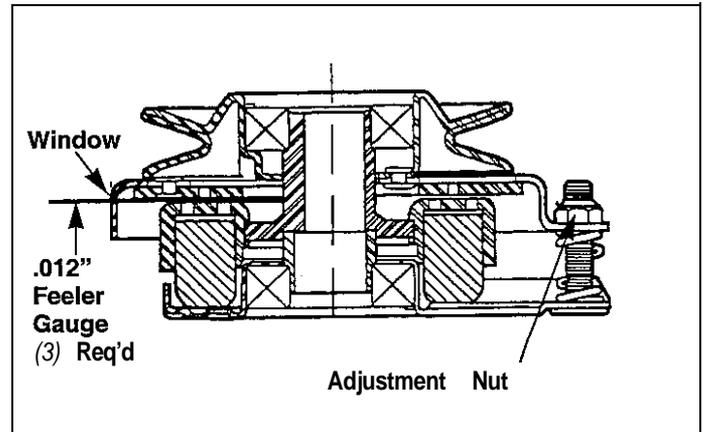

Figure 36. Feeler Gauge Position
3. Insert a .012" feeler gauge through each window, positioning the gauge between the rotor face and the armature face as shown in Figure 36.